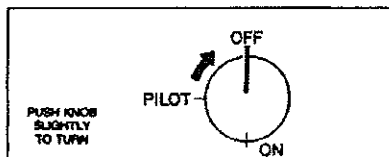
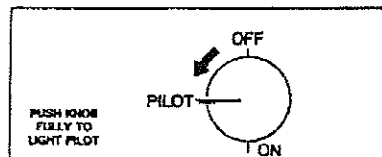

Figure 15. Rotate control valve to OFF position for both pilot and burner shutdown.
Figure 16. Rotate control valve to PILOT position.
2. Push in gas control knob slightly and turn clockwise (↻) to the "OFF" position. (See Figure 15.)
3. Wait five (5) minutes to clear out any gas. If you then smell gas, STOP! Follow "2" in the safety information above. If you do not smell gas, go to the next step.
5. Turn the knob counterclockwise(↺) to the "PILOT". Do not push the knob in as you turn. (See Figure 16.)
1. Push in gas control knob slightly and turn clockwise (↻) to "OFF". Do not force. (See Figure 15.)